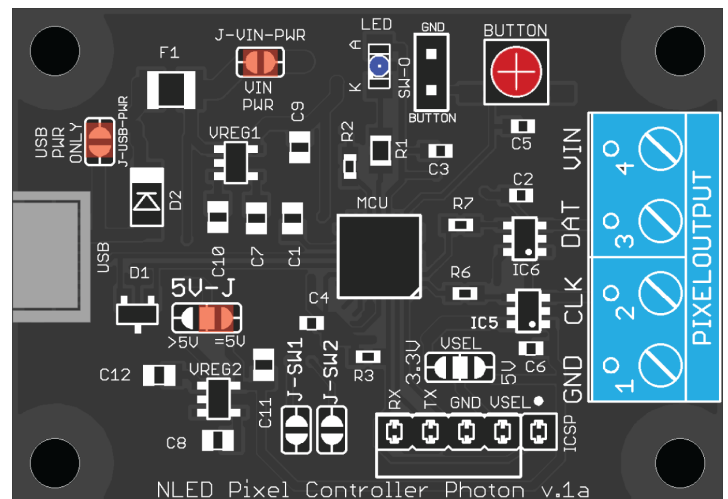

Fig. 15d
4. Powering from USB only and will never connect an external power supply: Close J-VIN-PWR, close J-USB-PWR, 5V-J to '=5V'. This is advanced and not recommended. See Fig. 15d